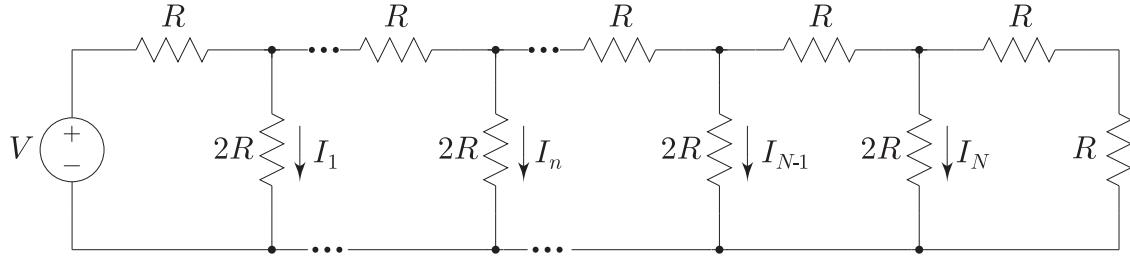

Figure 1.1: An R - $2R$ ladder network.
3. **R-2R Ladder Network.** Consider the circuit shown in Fig. 1.1. It is called an R - $2R$ ladder network, because if you were to turn it sideways it would look like a ladder. This type of circuit is commonly used to build digital-to-analog (D/A) converters to interface computers to the real world, as you will be considering in the postlab section. As a function of the applied voltage, V , and the unit resistance, R , what are the currents, I_1 through I_N , that flow through each of the $2R$ branches?
4. **Accurate 2:1 Resistor Ratios.** In order to obtain accurate current division at each branch in the R - $2R$ ladder network shown in Fig. 1.1, we need to have accurate 2:1 ratios between the various branches in the network. When designing integrated circuits, we obtain the most accurate ratios (for rational numbers) when we use an integral number of well-matched unit-sized devices. In this case, we would like to construct two effective resistances in a 2:1 ratio from three identical resistors, each with a resistance R . Come up with two different methods to accomplish this goal. In building an R - $2R$ ladder network, which method uses fewer unit resistors?
Consider the circuit shown in Fig. 1.3, called an *R-2R ladder network*, which is a commonly used structure in building D/A and A/D converters. Derive an expression relating the current flowing through each of the $2R$ resistors to the reference voltage, V_{ref} and to the *unit resistance*, R . In the circuit shown in Fig. 1.3, each switch selectively steers one of these currents to the left or to the right based on the value of one of the binary digits in an N -bit binary number. Those currents that are steered to the left are combined to form an output current, I_{out} , flowing into ground. Derive an expression relating I_{out} to the values of the binary digits (i.e., b_{N-1}, \dots, b_0), the reference voltage (i.e., V_{ref}), and the unit resistance (i.e., R). Please carefully note the differences between Fig. 1.1 and Fig. 1.3. Your answers must be expressed using the indexing scheme shown in Fig. 1.3 in order to receive full credit.